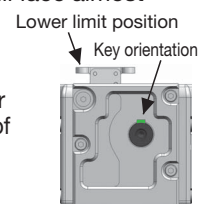

Figure 3
13. If the ZCA is installed using the bottom surface of the drive section, then the keyway of the input shaft will face almost perfectly upward at the stroke lower limit (see Figure 3). However, if synchronized, a small amount of displacement will occur due to individual differences in backlash and so on. To prevent this, install a separate mechanism that adjusts the phase.